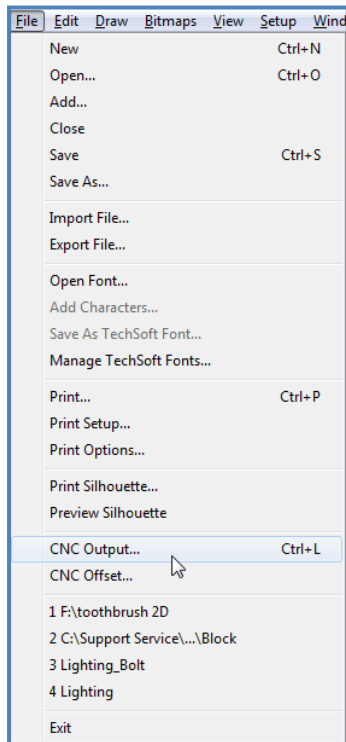

Figure 18
- Select File-> CNC Output (Figure 18).